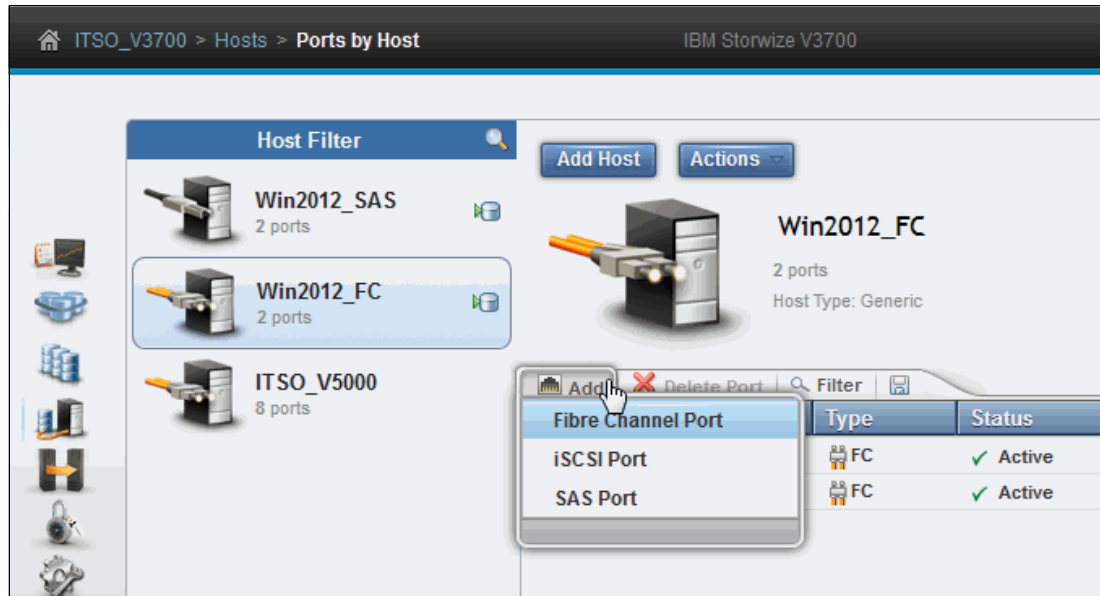
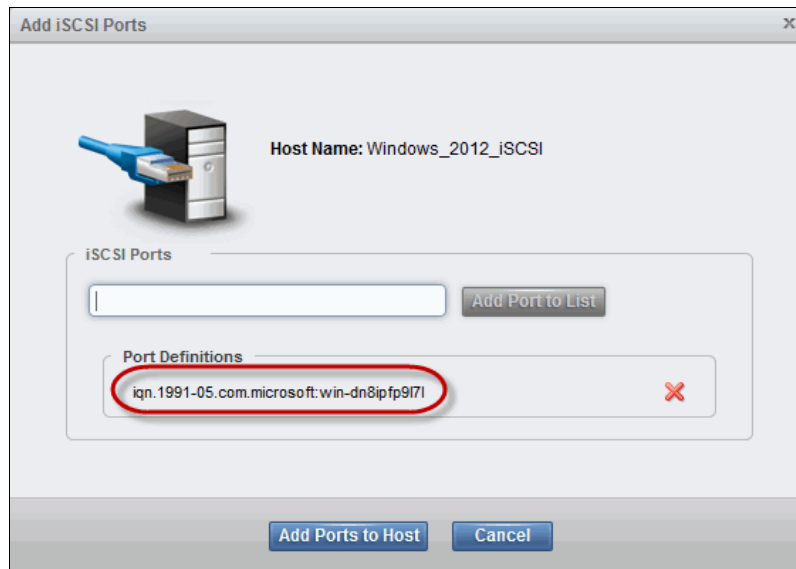

Figure 8-29 Adding a host port
Figure 8-33 Adding iSCSI Host ports
2. Choose a Fibre Channel, SAS, or iSCSI port, as shown in Figure 8-29.
1. After clicking **Add**, as shown in Figure 8-29, click **Fibre Channel Port** to open the Add Fibre Channel Ports pane.
1. After clicking **Add**, as shown in Figure 8-29 on page 378, click **SAS Port** to open the Add SAS Ports pane.
1. After clicking **Add**, as shown in Figure 8-29 on page 378, select **iSCSI Port** to open the Add iSCSI Ports pane shown in Figure 8-33.
2. Enter the initiator name of your host and click **Add Port to List**, as shown in Figure 8-33.